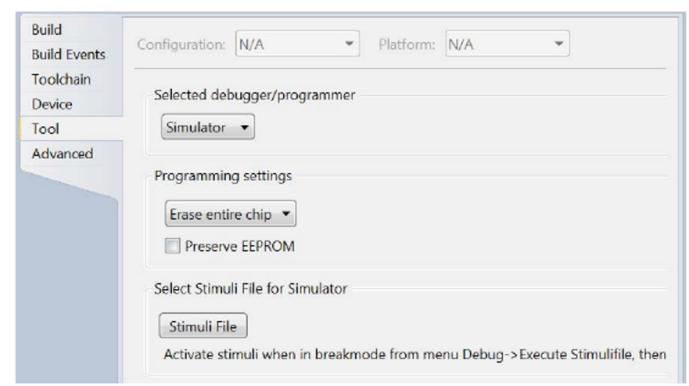

FIG 4. Configuration of the debugger
- Select “Simulator”, as shown in Figure 4